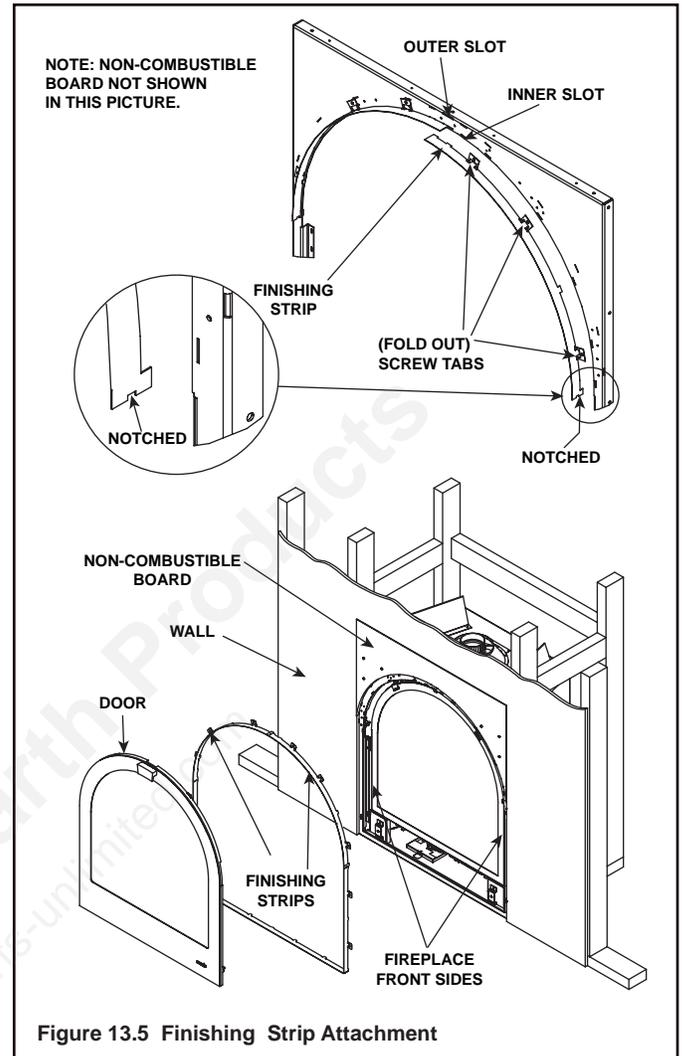

Figure 13.5 Finishing Strip Attachment
3. Finishing Strip Attachment: With the notched end of the finishing strip in the lower position, insert tabs into inner slots. Secure tabs with screws provided (see Figure 13.5).